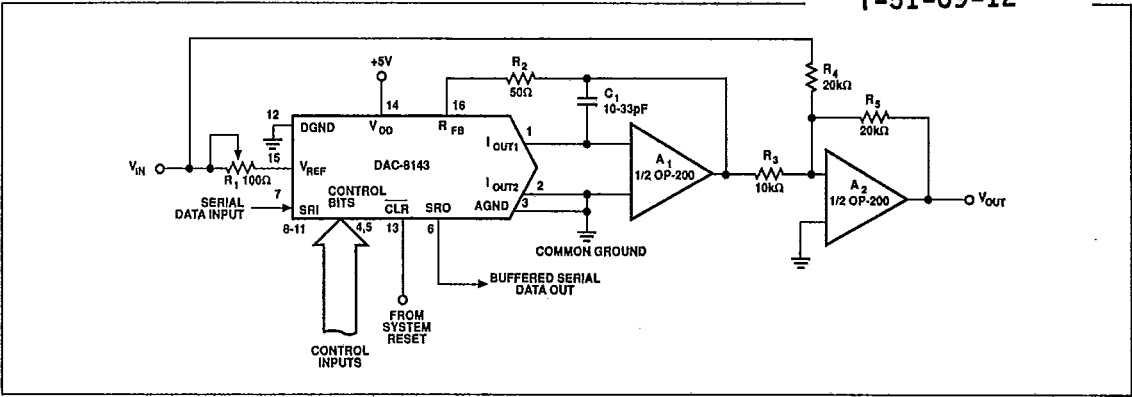

FIGURE 9: Bipolar Operation (4-Quadrant, Offset Binary)
Figure 9 details a suggested circuit for bipolar, or offset binary operation. Table 3 shows the digital input-to-analog output relationship. The circuit uses offset binary coding. Two's complement code can be converted to offset binary by software inversion of the MSB or by the addition of an external inverter to the MSB input.
- Nominal full scale for the circuits of Figure 9 is given by $FS = V_{REF} \left(\frac{2047}{2048}\right)$.
- Nominal LSB magnitude for the circuits of Figure 9 is given by $LSB = V_{REF} \left(\frac{1}{2048}\right)$.